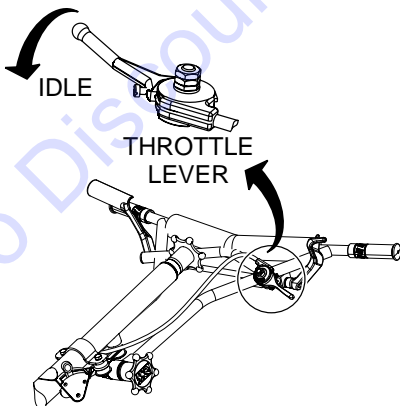

Figure 28. Throttle (Idle Position)
3. Push the *throttle lever* (Figure 28) in the "idle" position.